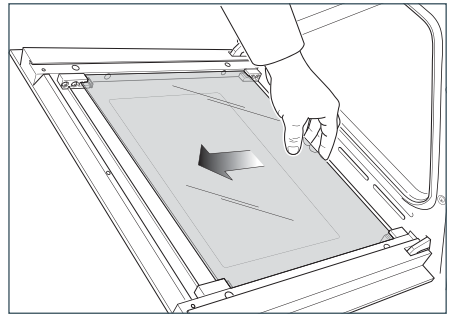

Fig.59b
- Gently unlock the middle pane of glass from the bottom clamps by moving it as in Fig. 59b.